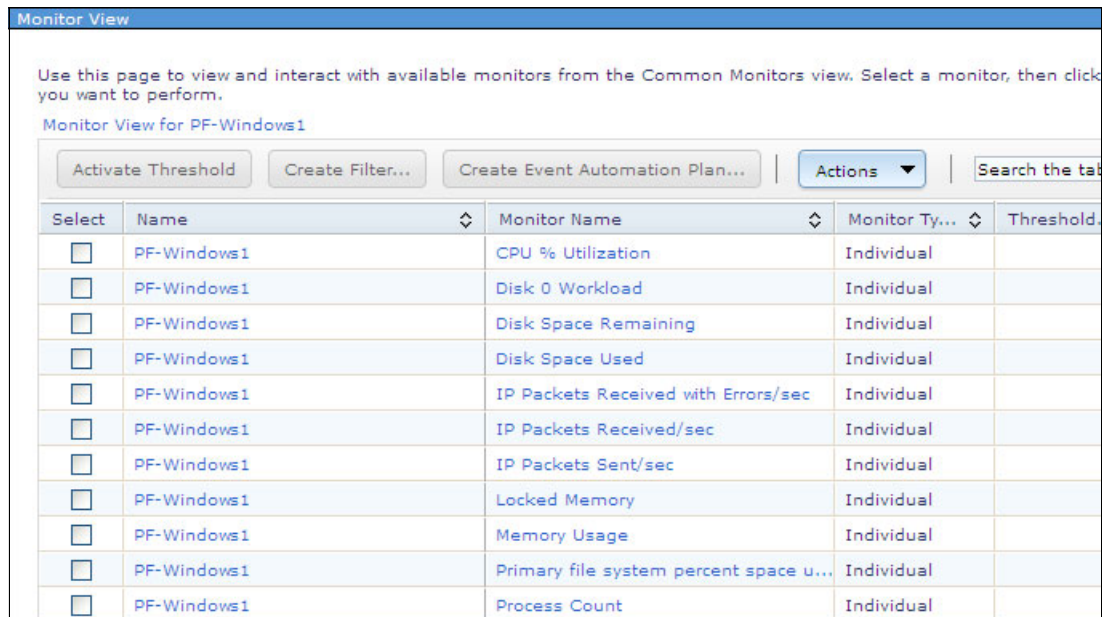

Figure 7-43 Common Monitors Monitor View for the selected target system
- The Monitor View window shows all common monitors for the selected Windows target system. You can see the real-time values of the individual monitors and information about activated thresholds. There are no activated thresholds as shown in Figure 7-43.